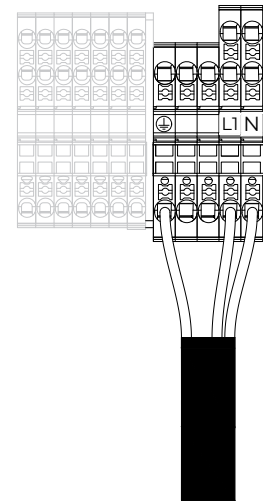
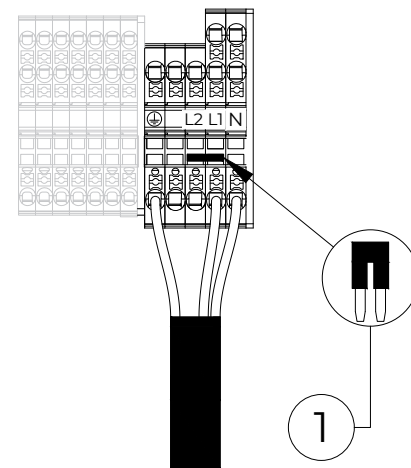

Figure 15: Connecting the single-phase power cable to the terminals for a 2 kW electric heating appliance.
Figure 16: Connecting the single-phase power cable to the terminals for a 4 kW electric heating appliance.
If you have single-phase power, you can connect a 2 kW (Figure 15) or 4 kW (Figure 16) electric heater in the indoor unit.
Connect the power cable to the terminals L1, N, and PE (Figure 15).
Connect the power cable to the terminals L1, N, and PE, and place a shorting jumper (1) on terminals L1 and L2 (Figure 16).